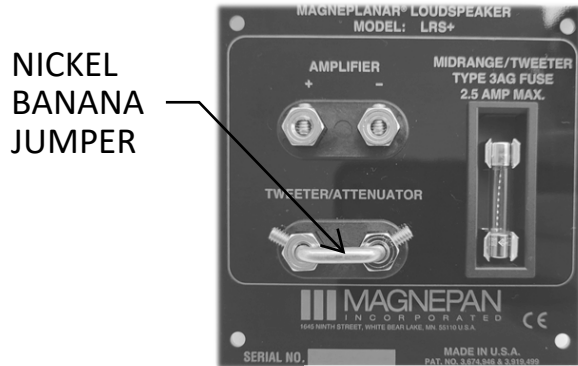

FIGURE 1
3. The LRS+ uses a unique high-current connector which accepts banana plugs or bare wire (See Figure 1). Strip approximately 1/4-inch of insulation from the speaker cable end and insert banana plug or wire into the connector and tighten the set screw with the Allen wrench provided. Special spade lug adapters are available from Magnepan--call the service department at 651-262-1934 to order. Magnepan encourages the use of large gauge speaker wire (preferably 16 gauge or larger, but 12-10 gauge is more ideal).
5. Attenuation is accomplished by placing a resistor in the attenuation position on the connection plate (see Figure 1 and 2 below). Provided with your speakers are 1 and 2 ohm resistors for this purpose. These resistors will provide 1 to 4 dB of attenuation.